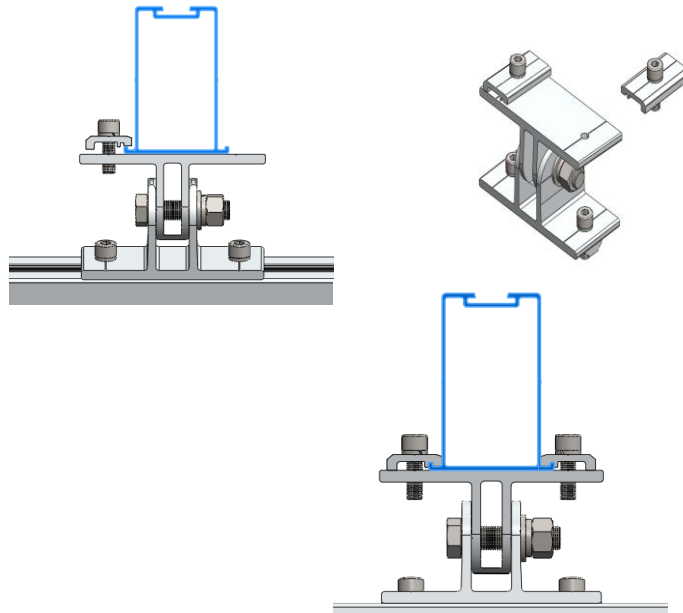

Figure 21
4.4.2 Click one lower side of TM Rail on the East-West Adjustable Bracket and fasten with Rail Clamp. And fasten the other lower side of TM Rail with Rail Clamp as shown in Figure 21.